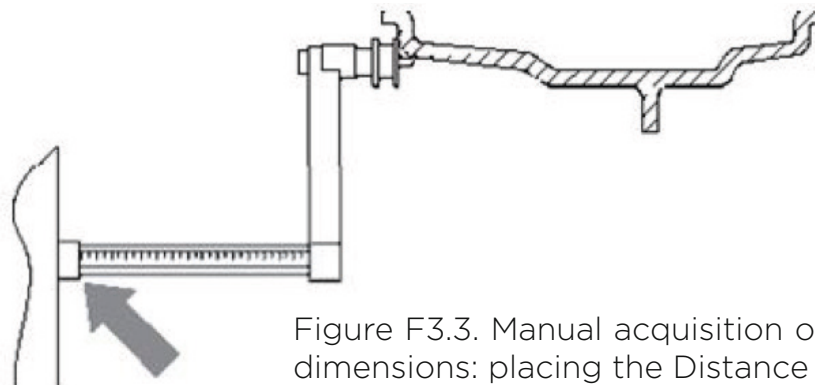

Figure F3.3. Manual acquisition of wheel dimensions: placing the Distance sensor
2. Extract the distance sensor and place it on the wheel as shown in Figure F3.3.
3. Read the distance value on the graduated scale as shown in figure F3.3. The distance value is always expressed in millimetres;